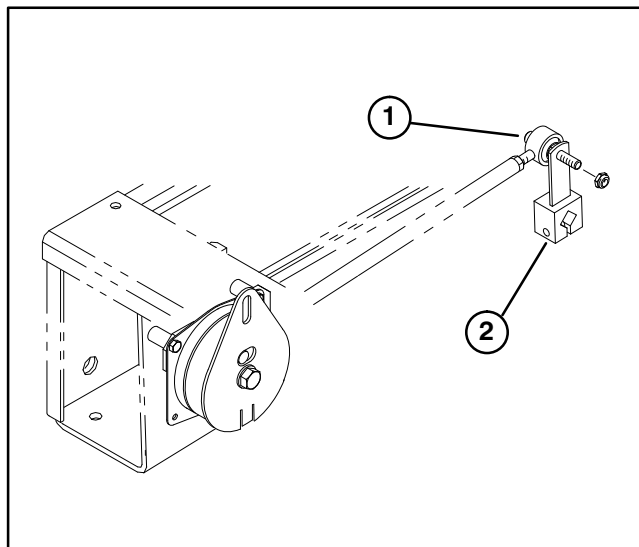

Figure 5
14. Remove locknut securing traction rod hub to traction lever (Fig. 5).